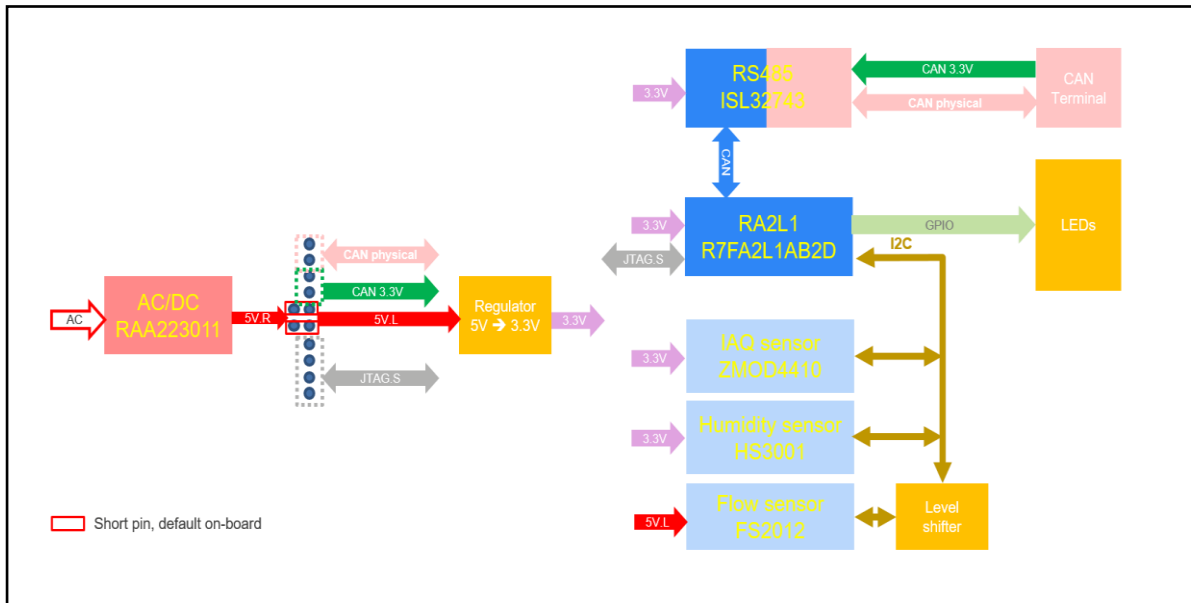

Figure 1-2 RA2L1 CAN Sensor EVB Block Diagram
- B. Figure 1-2 is the block diagram of RA2L1 CAN Sensor EVB.